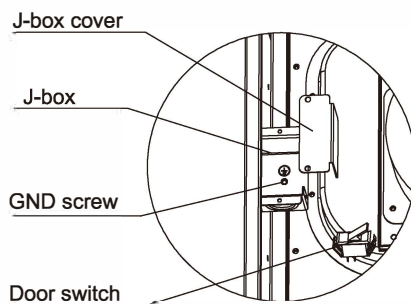

Fig. 9-1 J-box
3. Remove and save two screws holding J-Box. (See Fig. 9-1.)